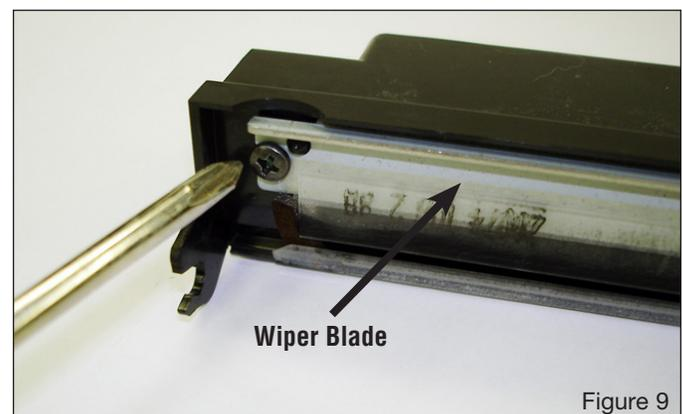

Figure 9
3. Before installing a new wiper blade, be sure to dip the working edge of the wiper blade in toner for lubrication. Install the new wiper using the two screws that were removed as shown in Figure 9.